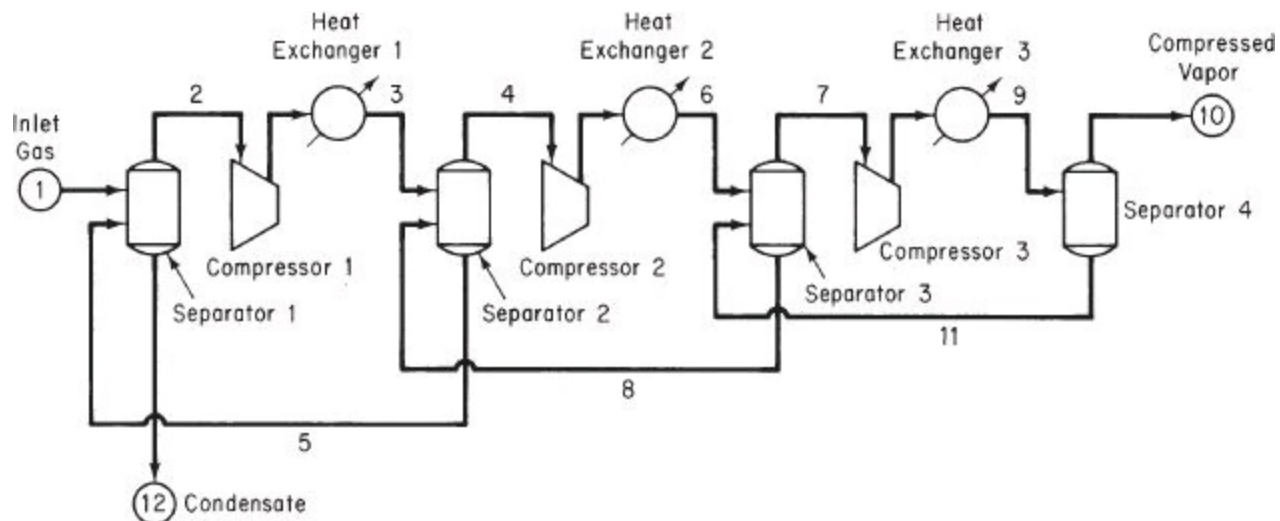

Figure P16.14
16.14. A mixture of three petroleum fractions containing lightweight hydrocarbons is to be purified and recycled back to a process. Each of the fractions is denoted by its normal boiling point: BP135, BP260, and BP500. The gases separated from this feed are to be compressed as shown in Figure P16.14. The inlet feed stream (1) is at 45°C and 450 kPa and has the composition shown. The exit gas (10) is compressed to 6200 kPa by a three-stage compressor process with intercooling of the vapor streams to 60°C by passing through a heat exchanger. The exit pressure for Compressor 1 is 1100 kPa and 2600 kPa for Compressor 2. The efficiencies for Compressors 1, 2, and 3, with reference to an adiabatic